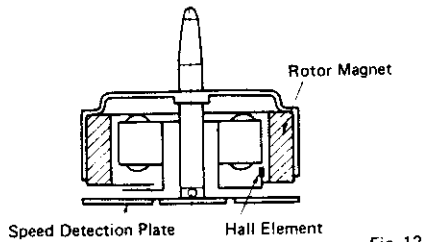

Fig. 12
- This Reverse Rotation Prevention circuit consists of two flip-flops and AND gates See Fig. 12.